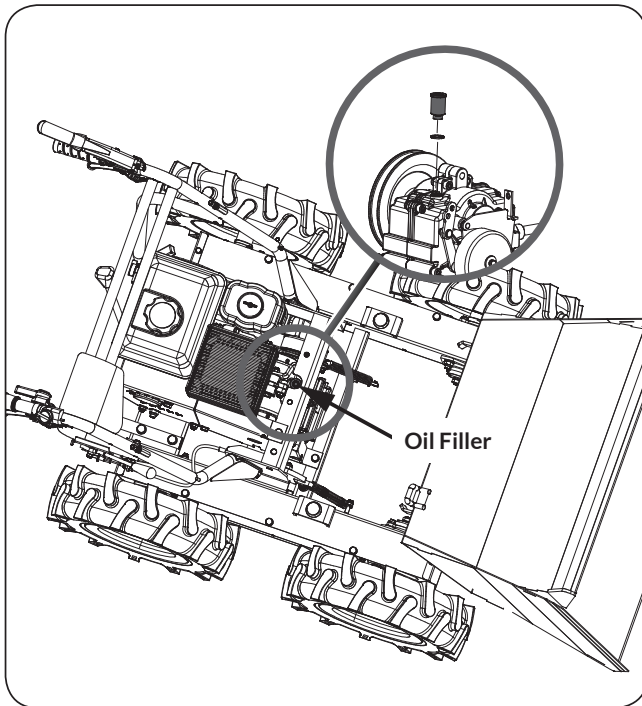

Figure 10a
- » Transmission oil must be replace when engine is stopped and warm by unscrewing filler cap and drain plug. When oil is completely drained, replace filler cap and fill up with fresh oil. (See **Figure 10a**)